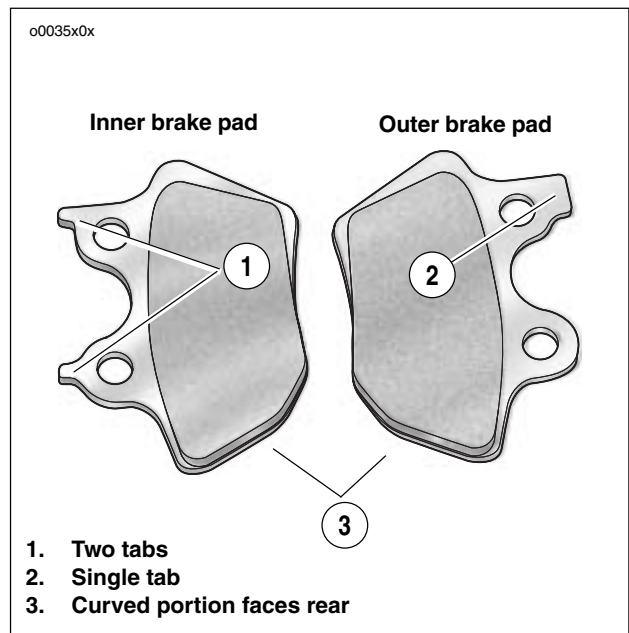

Figure 2-4. Rear Brake Pad Orientation
8. See Figure 2-4. Orient **new** inner brake pad against the brake disc. Curved portion must face rear of motorcycle.